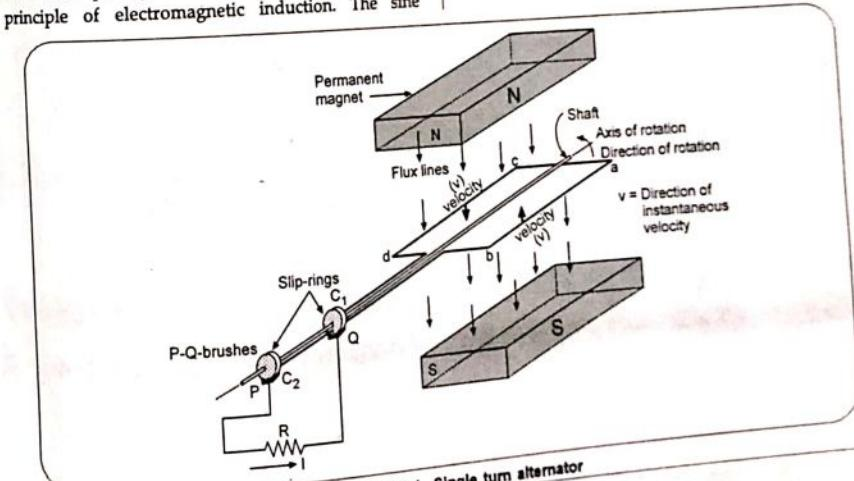

Fig. 2.2.1 Single turn alternator
- The two brushes P and Q are resting on the slip rings. The brushes are stationary and just making contact with the slip rings. The overall construction is shown in the Fig. 2.2.1.
• Instant 1 : Let the initial position of the coil be as shown in the Fig. 2.2.1. The plane of the coil is perpendicular to the direction of the magnetic field. The instantaneous component of velocity of conductors ab and cd, is parallel to the magnetic field as shown and there cannot be the cutting of the flux lines by the conductors. Hence, no e.m.f. will be generated in the conductors ab and cd. This is shown in the Fig. 2.2.2 (a).